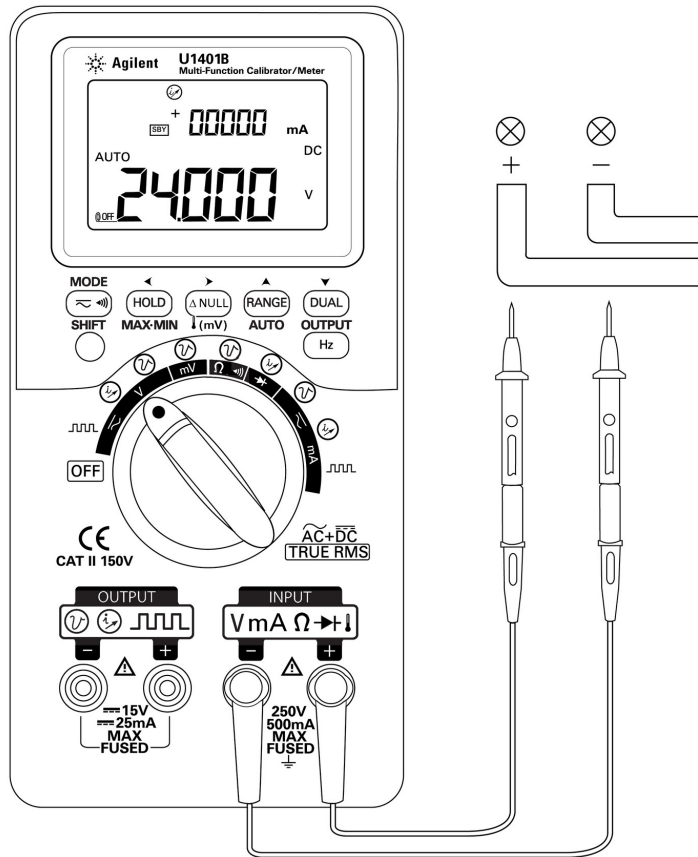

Figure 3-1 DC voltage measurement
- 3 Connect the red and black test leads to the positive and negative input terminals respectively (Figure 3-1 on page 47).